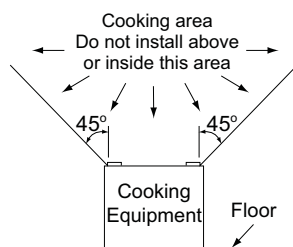

Figure 1
7. Not for use in cooking areas. (Figure 1)